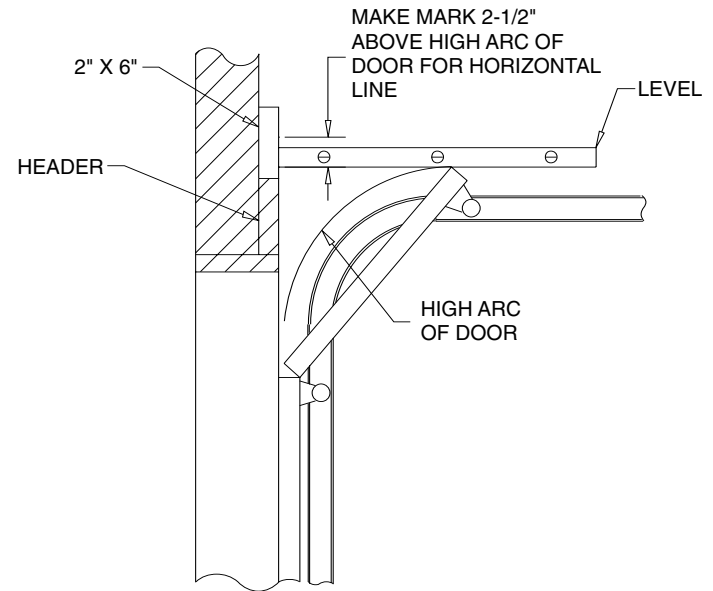

Figure 8
- 5) Use a level, as shown in **Fig. 8 (pg 4.6)** to find the highest point of travel for the door.
- 3) Position the bottom edge of the front spreader bracket on your horizontal mark on the header. **Fig. 8.**